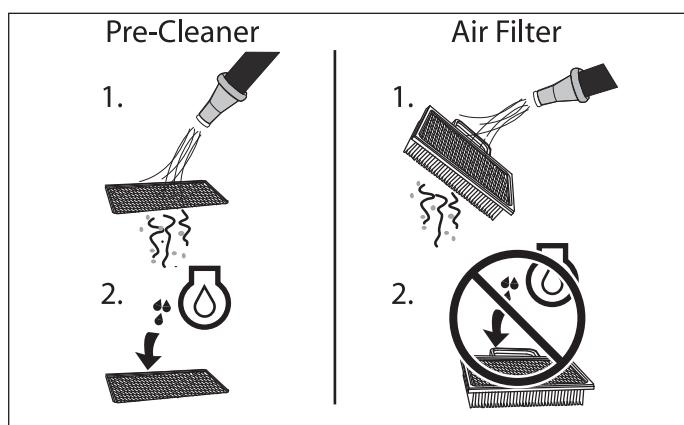

Figure 27. Air Filter Service
1. See Figure 27. Wash the pre-cleaner in liquid detergent and water.
1. See Figure 27. If stamped "Washable," the filter can be washed with warm water and mild soap.